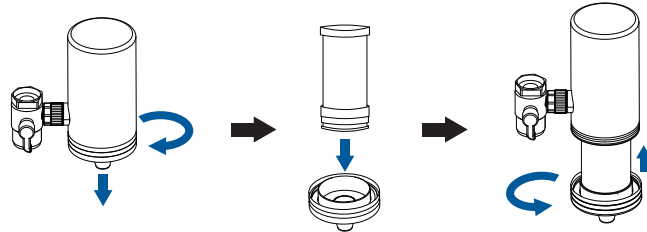

Figure 1.1
1. Take out the filter (A) and remove the package.
2. Take out the system and adapters (A3/A5) and twist off the filter base (D) counterclockwise. Keep the water outlet hole of the filter downward and put the filter on the filter base (D). Twist on the filter base (D) clockwise. [Figure 1.1]